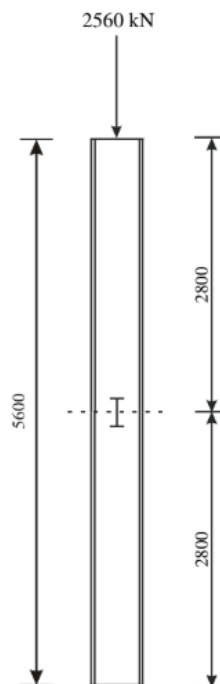

Figure Q2
- b) The column shown in Figure Q2 is pin ended about both the z-z and y-y axes with the addition of a tie at mid-height providing restraint in the y-y plane. If the column forms part of a braced framework, design the column in Grade S275 steel. The column is subjected to a design load $N_{Ed} = 2560$ kN. The size of the column is 254 x 254 x 89 UKC in S275 steel.